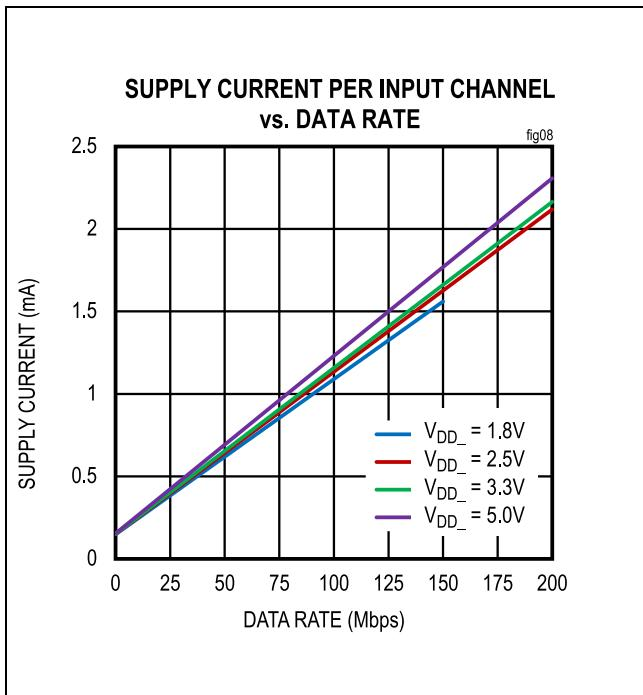
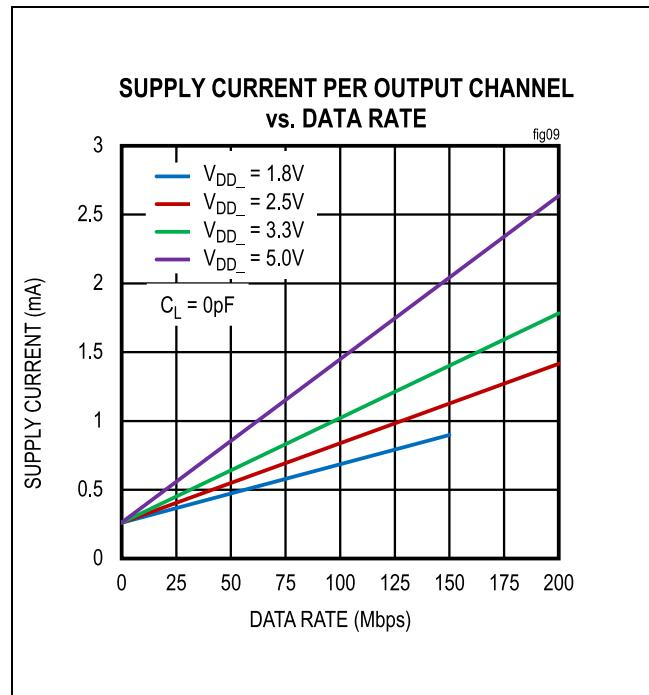

Figure 8. Supply Current per Input Channel (Estimated)
Figure 9. Supply Current per Output Channel (Estimated)
The required current for a given supply ( $V_{DDA}$  or  $V_{DDB}$ ) can be estimated by summing the current required for each channel. The supply current for a channel depends on whether the channel is an input or an output, the channel's data rate, and the capacitive or resistive load if it is an output. The typical current for an input or output at any data rate can be estimated from the graphs in Figure 8 and Figure 9. Note that the data in Figure 8 and Figure 9 are extrapolated from the supply current measurements in a typical operating condition.
The total current for a single channel is the sum of the no load current (shown in Figure 8 and Figure 9), which is a function of voltage and data rate, and the load current, which depends on the type of load. Current into a capacitive load is a function of the load capacitance, the switching frequency, and the supply voltage.
- Channel 1 is an output channel operating at 2.5V and 100Mbps, consuming 0.84mA, estimated from Figure 9.
- Channel 2 is an input channel operating at 2.5V and 20Mbps, consuming 0.35mA, estimated from Figure 8.
Channel 1 is an input channel operating at 3.3V and 100Mbps, consuming 1.16mA, estimated from Figure 8.
- Channel 2 is an output channel operating at 3.3V and 20Mbps, consuming 0.41mA, estimated from Figure 9.